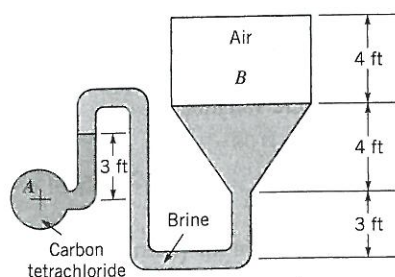

Figure P2.57
2.57 In Fig. P2.57 pipe A contains carbon tetrachloride ($SG = 1.60$) and the closed storage tank B contains a salt brine ($SG = 1.15$). Determine the air pressure in tank B if the pressure in pipe A is 25 psi.